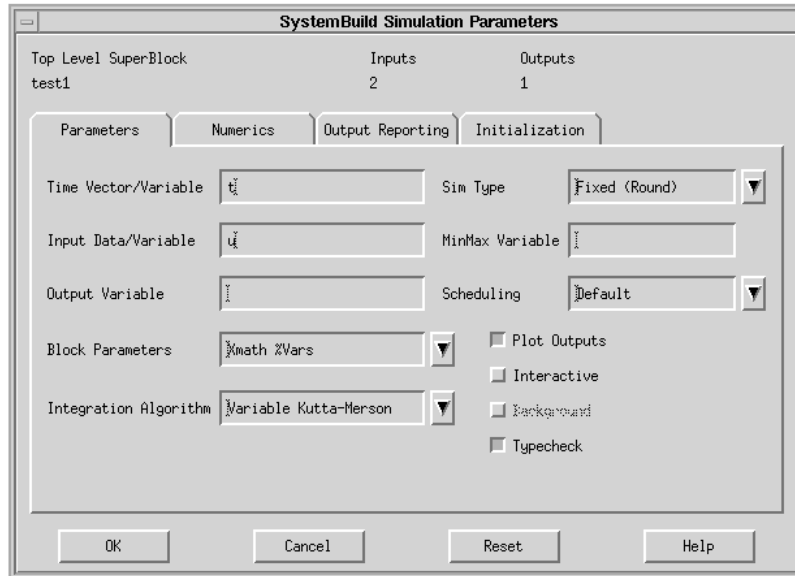

FIGURE 15-10 Sim Dialog, Ready for Simulating Comparison
5. Select Tools→Simulate. In the dialog, specify t and u for the time vector and the input data variable, respectively. Make the Sim Type Fixed (Round) and enable **Plot Outputs** (i.e., plot). The Simulation Parameters dialog should look like Figure 15-10 on page 15-19. Click **OK**.